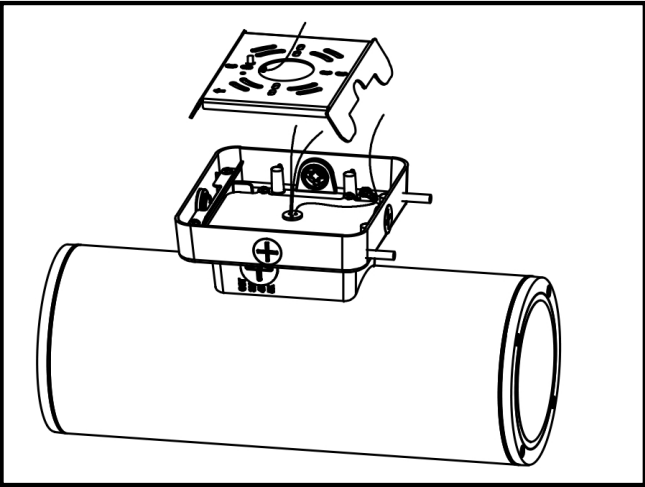

Figure 2.
2. Remove the wedge plate from the luminaire (Figure 2.)